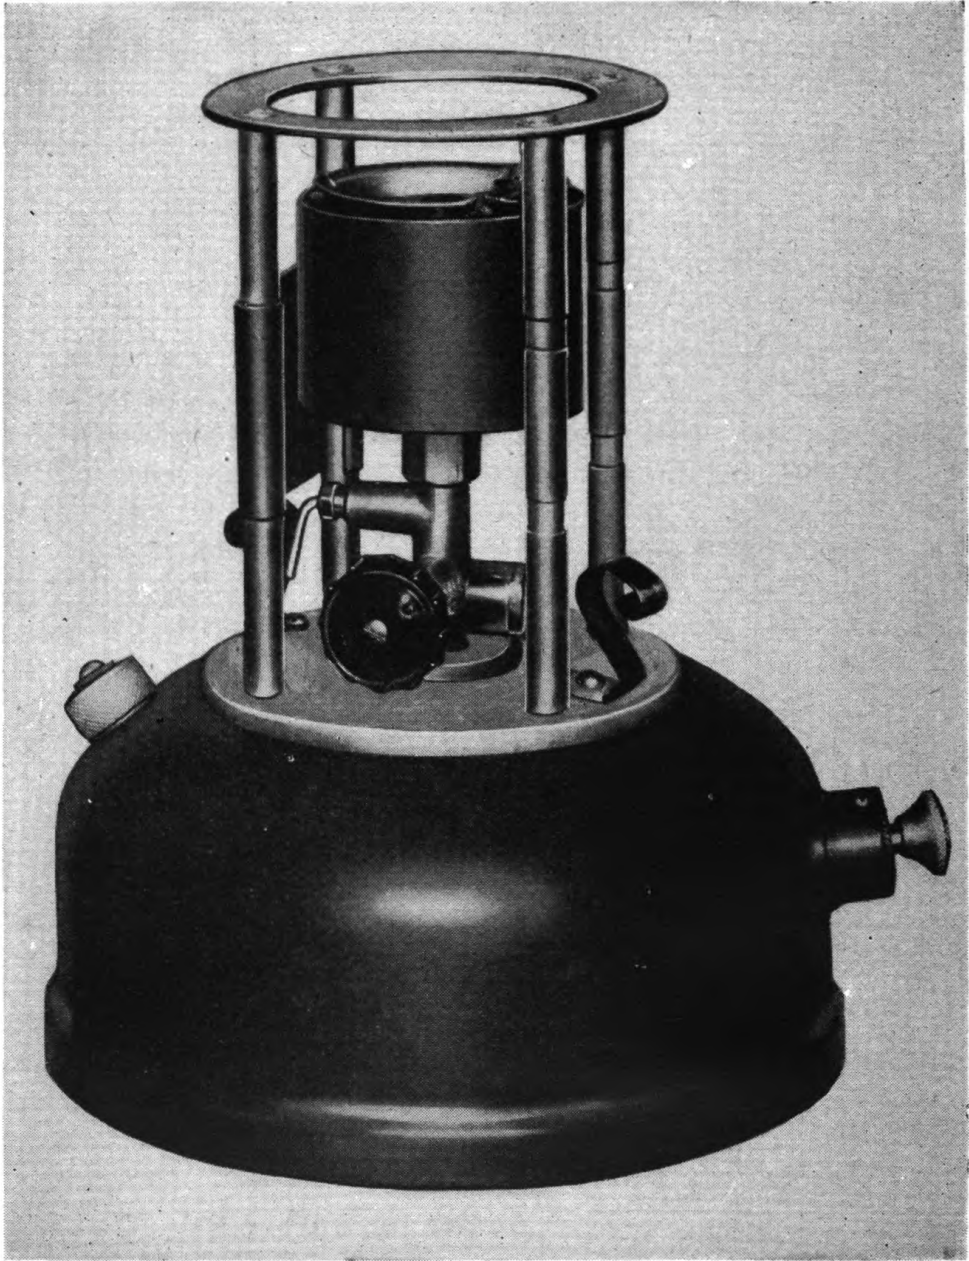

Figure 1. Item No. 9955000—Stove, 1 burner, gasoline.
(1) A supporting frame above the burner head or heads (figs. 1 and 2) to hold vessels and other equipment to be heated.